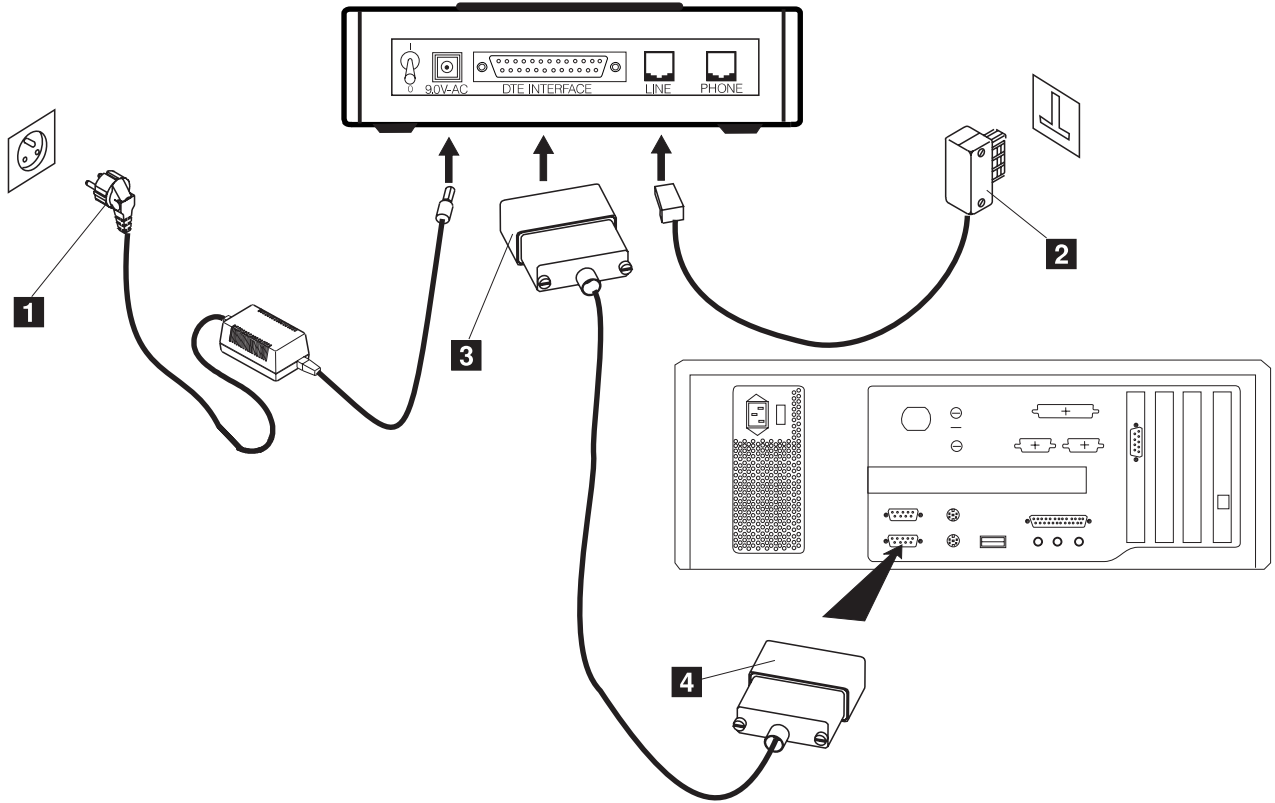

Figure 1-43. Connecting the NAS to the Hayes Modem
2. See Figure 1-43 on page 1-38 and connect the cables as follows: